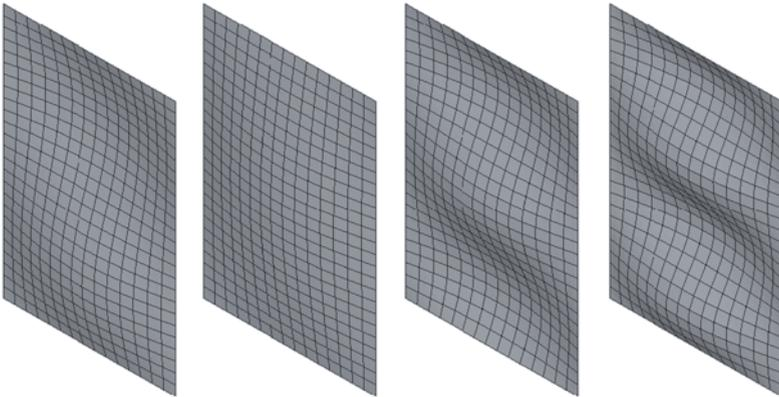

Fig. 8.57 Buckling modes 1 through 4 (from *left to right*)
- Figure 8.57 shows the first four mode shapes of the plate.